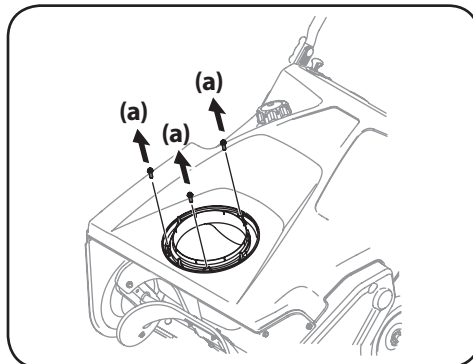

Figure 2-7
2. Remove the hex washer screws (a) in the chute base. See Figure 2-7.